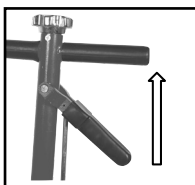
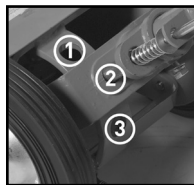
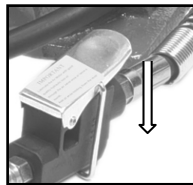

Fig. 12
Fig. 13
Fig. 14
- Position the handle assembly (2) in desired angle. This is done by pulling the lock lever (3) (fig.12) and raising or lowering the handle to one of the three pre-set position (fig.13). Release the lock lever (3) to lock the handle in the desired position.
- Turn the release knob (1) completely clockwise to its closed position. Then connect to the air supplies air hose (not included) to the air inlet (13).
- Depress the lever on the air valve assembly (12) until the Saddle (9,10 or 11) of the Air/Hydraulic Truck Jack has nearly reached the vehicle lifting point. Position the Jack at 90° to the vehicle's lifting point to ensure the Jack's Saddle and vehicle lifting point are in alignment. If not, remove and then reposition the Air/Hydraulic Truck Jack before lifting.
- To lift the vehicle, continue to depress the lever on the air valve assembly (12) (fig 14).